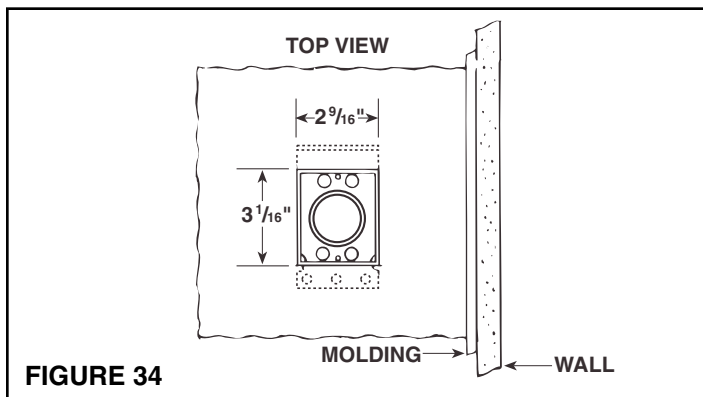

FIGURE 34
1. Refer to Figures 34 and 35. After floor inlet location has been selected, cut a $3\frac{1}{16}$ " x $2\frac{9}{16}$ " square hole in floor. Center line of inlet must be located at least $2\frac{1}{2}$ " from wall to allow cover to be opened when hose is inserted.
2. Determine direction of tubing and attach appropriate flanged fitting to mounting bracket with four (4) screws supplied. **Be sure mounting bracket flange does not interfere with tubing and seal is securely in place.**